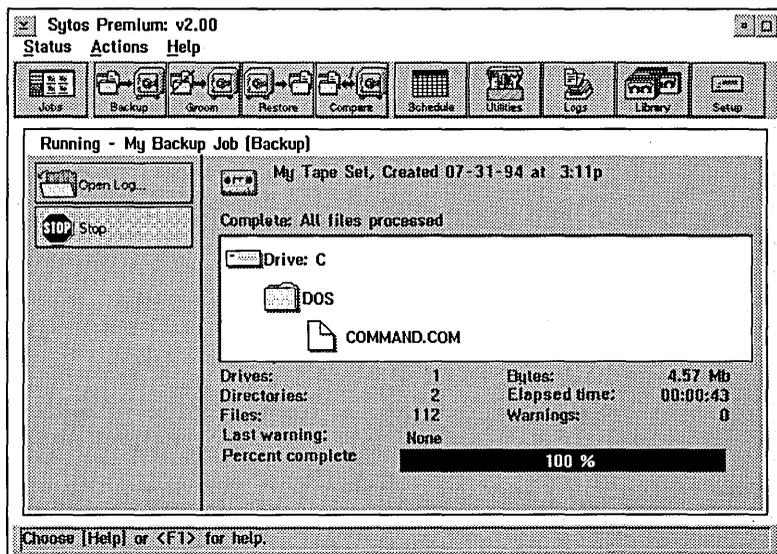

Figure 6-3. Status
- 2 Click on **[Run]** or select **Run** from the **Jobs** menu. The Status window opens, as shown in Figure 6-3.